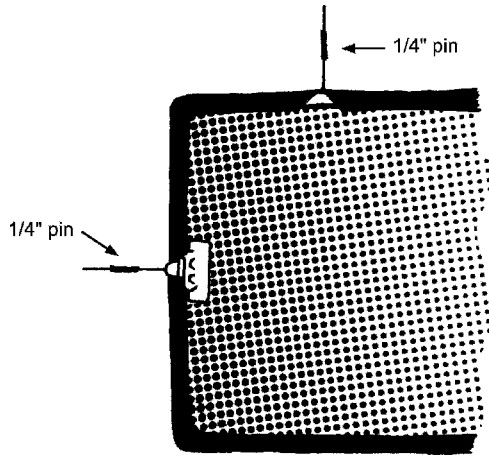

Figure 2.56 Flex scrim (also known as a postage stamp).
1. Flex scrims (Figure 2.56) are lightweight, smaller versions of regular scrims.